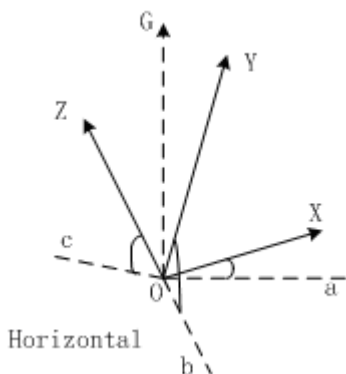

Fig.4 Relationship of 3 Accelerometer Axes
The following is the principle of 3-axis tilt compensation. We start with the relationship of 3 axes of the accelerometer in Fig.4.
In typical real world applications, only one of the three angles formed by X, Y and Z axes with respect to the horizontal plane is larger than 45 degrees at any given time. In Fig.4 x-axis is used to measure pitch ($\angle aOX$) and y-axis is used to measure roll ($\angle bOY$). When pitch or roll angle is larger than 45 degrees z-axis can be used to recalculate this angle by the relationship which can be described by formula (6).